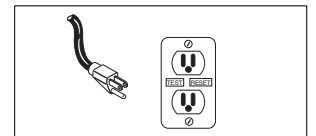

Figure 1
11. This equipment is only for use on 120 volt (single-phase) and is equipped with an approved 3-conductor cord and 3-prong, grounding-type plug as shown in Figure 1.
To reduce the risk of electric shock, the motor must be securely and adequately grounded. This can be accomplished by inserting plug directly into a properly installed and grounded 3-prong, grounding-type receptacle (as shown in Figure 1).
- It is strongly recommended that this unit is plugged into a Ground Fault Circuit Interrupter (GFCI). Consult a local electrician for installation and availability (See Figure 1).